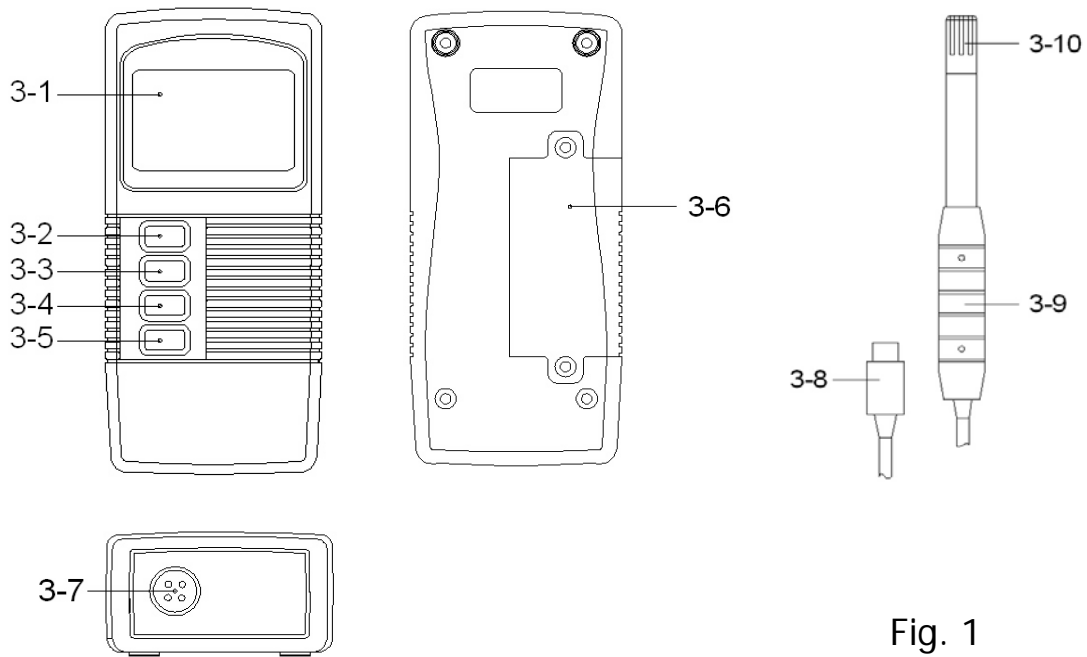

Fig. 1
- 1) Plug the " Probe Plug " ( 3-8, Fig. 1 ) into the " Probe Input Socket " ( 3-7, Fig. 1 ).
- 2) Power on the meter by pressing the " Power Button " ( 3-2, Fig. 1 ), the LCD shows the unit " %RH " & " °C " at the same time and measured value will show on the display ( upper display is Humidity value, the lower display is the temperature value ) .
The procedures of " Dew point measurement " are same as the above " 4-1 Humidity and Temperature measurement " except select the " Dew point " function by pressing the " Function Button " ( 3-5, Fig. 1 ) once, the LCD will show the unit " DEW " & " °C ( or °F ). The upper display show the Dew point value, the lower display show the temperature value.
During the measurement, press the " Hold Button " ( 3-3, Fig. 1 ) once will hold the measured value & the LCD will display a " HOLD " symbol.
- \* The data record function records the maximum and minimum readings. Press the " REC Button " ( 3-4, Fig. 1 ) once to start the Data Record function and there will be a " REC. " symbol on the display.
- a) Press the " REC Button " ( 3-4, Fig. 1 ) once, the " REC. MAX. " symbol along with the maximum value will appear on the display.
If intend to delete the maximum value, just press the " Hold Button " ( 3-3, Fig. 1 ) once, then the display will show the " REC. " symbol only & execute the memory function continuously.
- b) Press the " REC Button " ( 3-4, Fig. 1 ) again, the " REC. MIN. " symbol along with the minimum value will appear on the display.
If intend to delete the minimum value, just press the " Hold Button " ( 3-3, Fig. 1 ) once, then the display will show the " REC. " symbol only & execute the memory function continuously.
- a. Hold the " Set Button " ( 3-11, Fig. 1 ) at least two seconds until the lower display show " COde ", then release the " Set Button ", the upper display will show " 1000 ".
After display show " COde 1000 ", push the " Enter Button " ( 3-4, Fig. 1 ) once will go to the following b. procedures.
\* If push the " ESC Button " ( 3-3, Fig. 1 ) will escape the selecting function and return to the normal measuring display.
- b. One by one to press the " Set Button " ( 3-11, Fig. 1 ) once a while to select the two main function that show on the lower display as :
Use the " Set Button " ( 3-11, Fig. 1 ) to select the main function to " °F ", then one by one to press the " Function Button " ( 3-5, Fig. 1 ) a while will determine the default Temp. unit to °C or °F
After the function is determined, press the " Enter Button " ( 3-4, Fig. 1 ) to confirm and save the selection data into memory IC permanently. Press the " Esc Button " ( 3-3, Fig. 1 ) will revert to normal display screen.
Use the " Set Button " ( 3-11, Fig. 1 ) to select the main function to " OFF ", then one by one to press the " Function Button " ( 3-5, Fig. 1 ) a while will determine the default the power management system is Auto Power Off enable or disable.
After the function is determined, press the " Enter Button " ( 3-4, Fig. 1 ) to save the selection function into memory IC permanently. Press the " Esc Button " ( 3-3. Fig. 1 ) will revert to normal display screen.
- 2) Slide the " Battery Cover " ( 3-6, Fig. 1 ) away from the instrument and remove the battery.